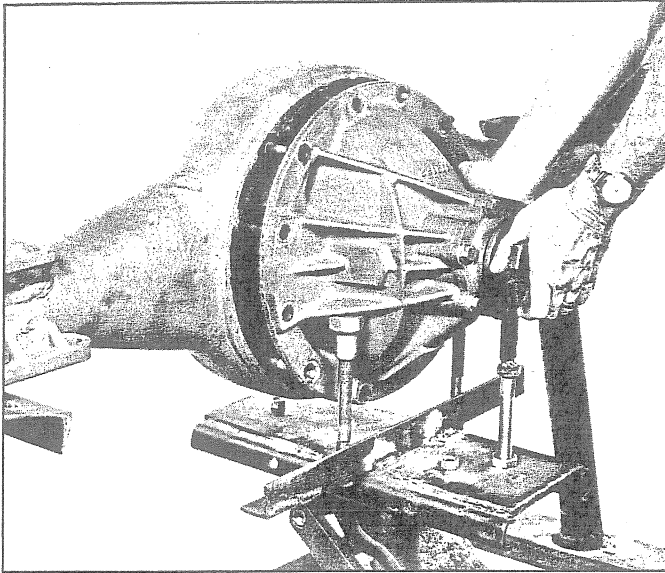

Fig. 10 - Removing or Installing Differential Assembly
- b. If the axle housing is on a stand with the differential in a normal position (such as when mounted on the unit), attach a suitable pad to the differential assembly and to a floor jack, remove retaining nuts and roll differential from the axle housing as shown in Fig. 10.
1. Align differential assembly to the axle housing as shown in Fig. 10. Secure the differential assembly to the axle housing with retaining nuts. Tighten nuts to 50-55 ft.-lbs. torque.